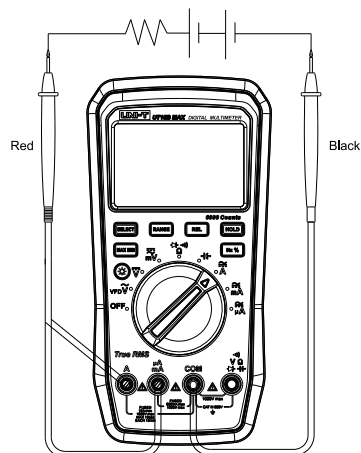

Figure 7
6. AC/DC Current Measurement (Figure 7)